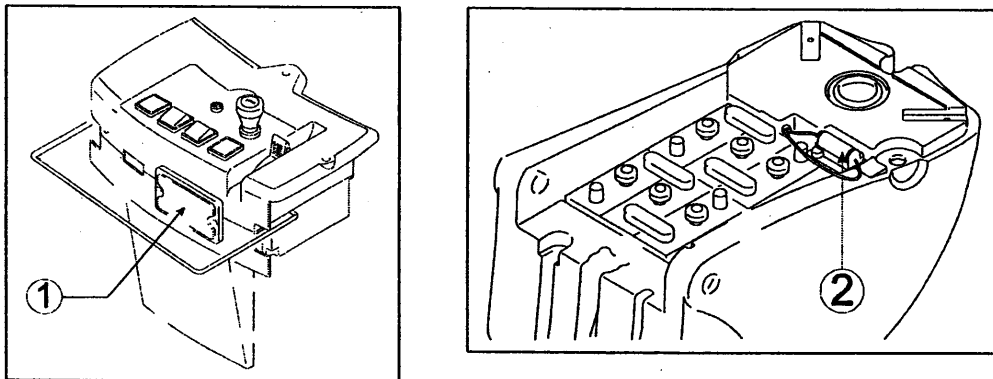

Fig. 14
- remove the fuse cover (fig. 14, ref. 1);
The 60A fuse, which protects the brush motor, is in the fuse-holder (fig. 14, ref. 2) that is fixed to the solution tank inside the battery compartment of the machine.